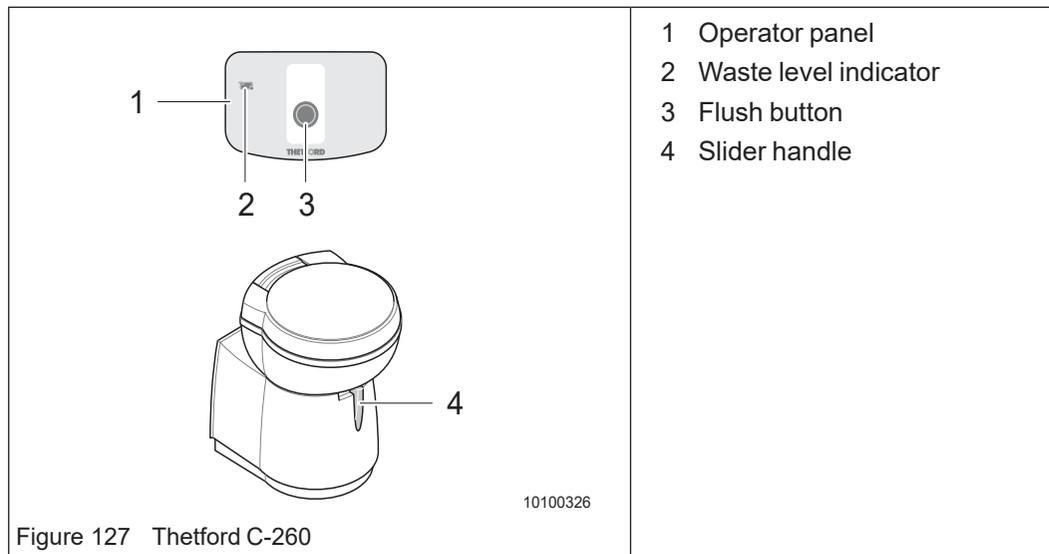

Figure 127 Thetford C-260
- Before flushing, open the slider. Slide the slider handle (Figure 127/4) to the side.
- Press the flush button (Figure 127/3) once to activate the actuator panel (Figure 127/1).
Drain the cassette (Figure 128) when the level indicator (Figure 127/2) lights up. Do not allow the cassette to become overfilled.
- ➔ Use the slider handle (Figure 127/4) to close the slider.